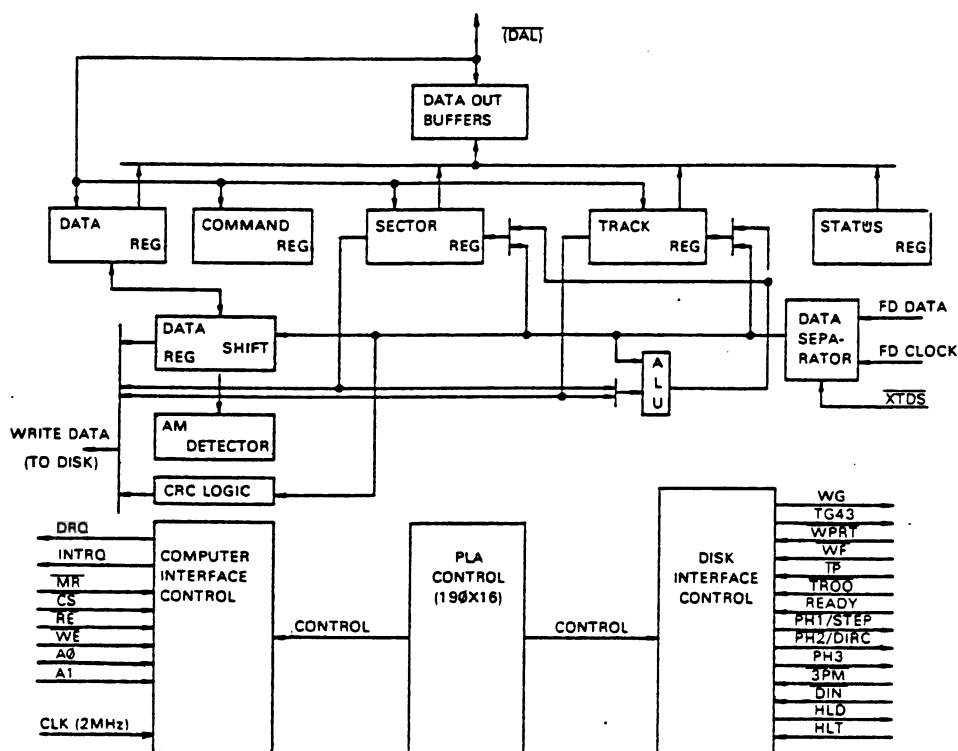

FIGURE 1-1
The FD1771 is a MOS/LSI device that performs the function of interfacing a processor to a flexible (Floppy) diskette drive. This single chip replaces nearly 80% of the required disk drive interface electronics. (See figure 1-1). It provides the data accessing controls and the bidirectional transfer of information between the processor's memory and the magnetically stored data on the diskette. The diskette data is stored in a data entry format compatible with the IBM 3740 specification (other formats may be used providing more data storage). In this format all information is recorded on tracks (radial paths) in sectors (arc sections) defined by a programmed header as shown below:
1.1 FD1771 — Flexible Drive Interface (Refer to Figure 1-1 FD1771 Block Diagram)
1.2 FD1771 — Processor Interface (See figure 1-1)